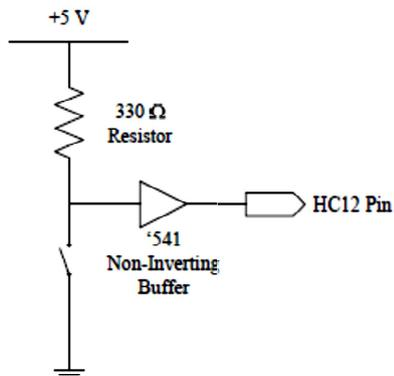
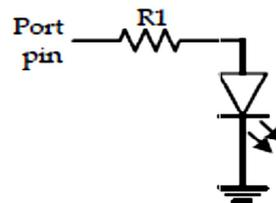

Figure 1. Switch Connection.
Figure 2. LED connection
Use four pins from Port A as inputs, and the remaining four pins as outputs. Connect the inputs to switches (connect them as it is illustrated in the figure 1 bellow), and the outputs to LEDs (as shown in figure 2).
1. Connect your hardware as it is shown in Figure 1 bellow.